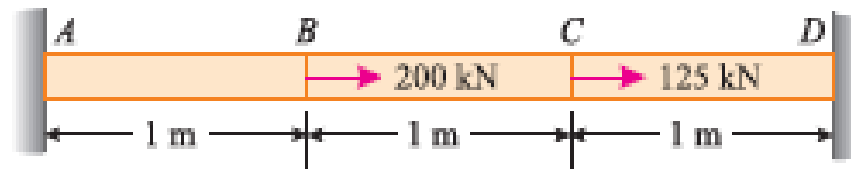

Fig. 4.3
**EXAMPLE 4.2.** An aluminium bar 3 m long and  $2500 \text{ mm}^2$  in cross-section is rigidly fixed at A and D as shown in Fig. 4.3.